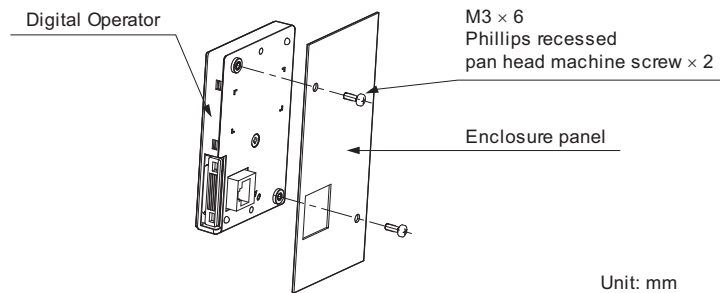

Figure 2.10 External/Face-Mount Installation
2. Position the digital operator so the display faces outwards, and mount it to the enclosure panel as shown in Figure 2.10.